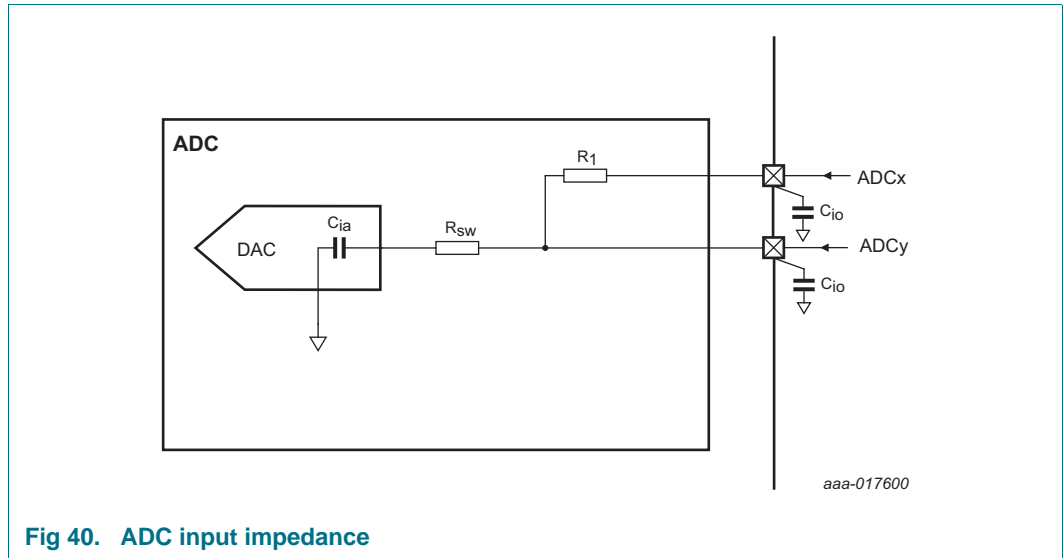

Fig 40. ADC input impedance
- [10] Input impedance Z_i is inversely proportional to the sampling frequency and the total input capacity including C_{ia} and C_{io} : $Z_i \propto 1 / (f_s \times C_i)$. See Table 21 for C_{io} . See Figure 40.
Figure 40 shows the ADC input impedance. In this figure: